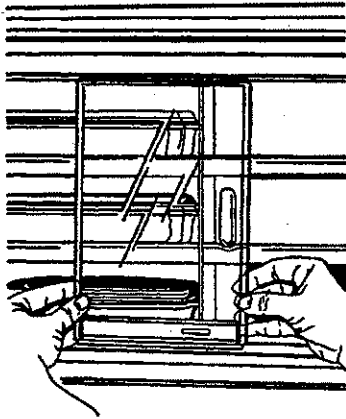

Figure 27
- a. The flexible sliding door can be removed for hand-washing by grasping bottom of door. Gently lift up and pull out of door track. See Figure 27.